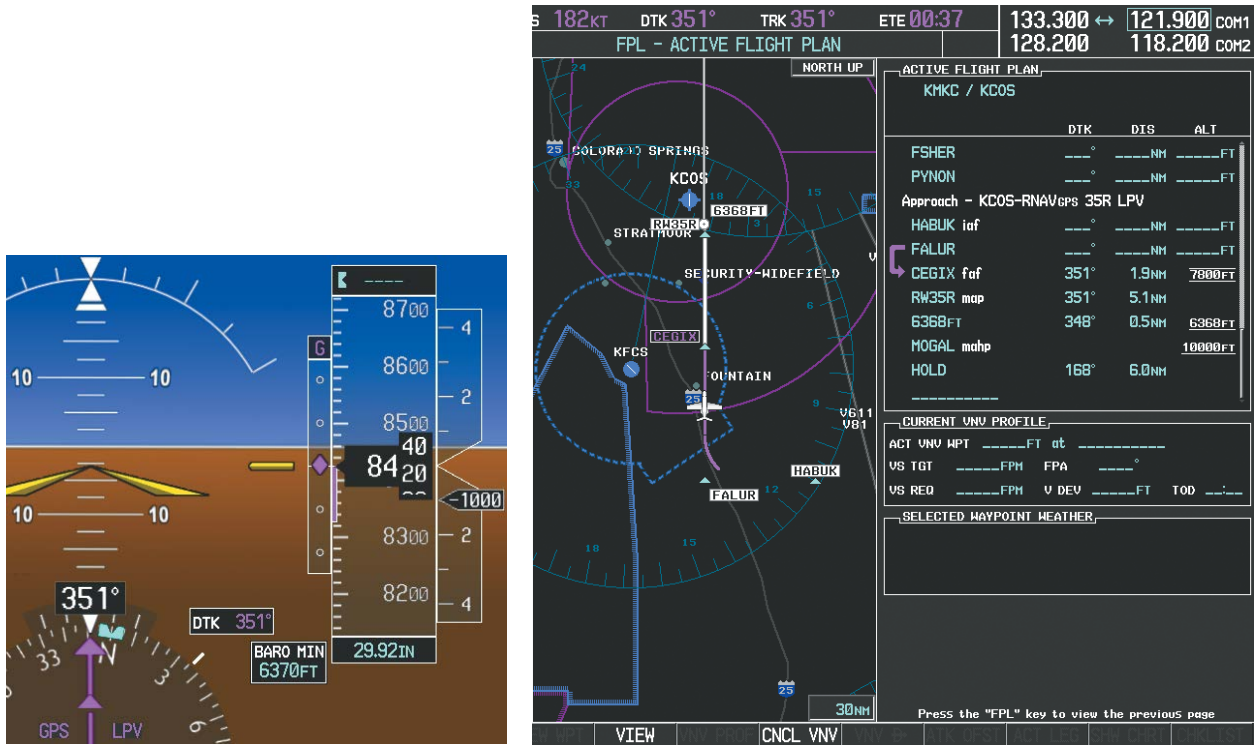

Figure 5-149 Descending to the FAF
- 23) After crossing FALUR the next waypoint is the FAF. The flight phase changes to LPV on the HSI indicating the current phase of flight is in Approach Mode and the approach type is LPV. CDI scaling changes accordingly and is used much like a localizer when flying an ILS approach. The RVSI is no longer displayed and the VDI changes to the Glidepath Indicator (as shown in Figure 5-149) when the final approach course becomes active.
The descent continues through the FAF (CEGIX) using the Glidepath Indicator, as one would use a glideslope indicator, to obtain an altitude "AT" 7,800 feet at the FAF. Note the altitude restriction lines over and under (At) the altitude in the 'ALT' field in Figure 5-149.